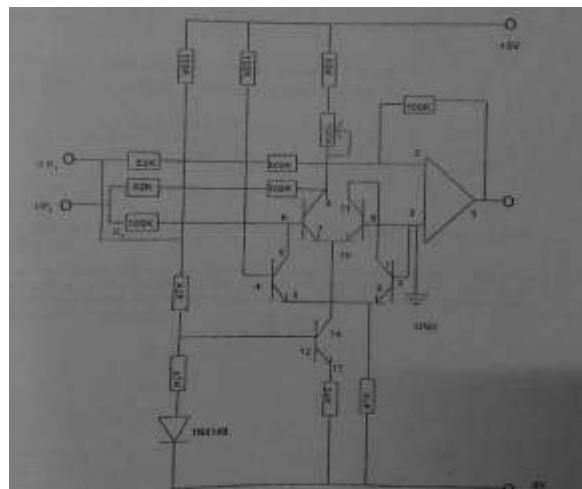
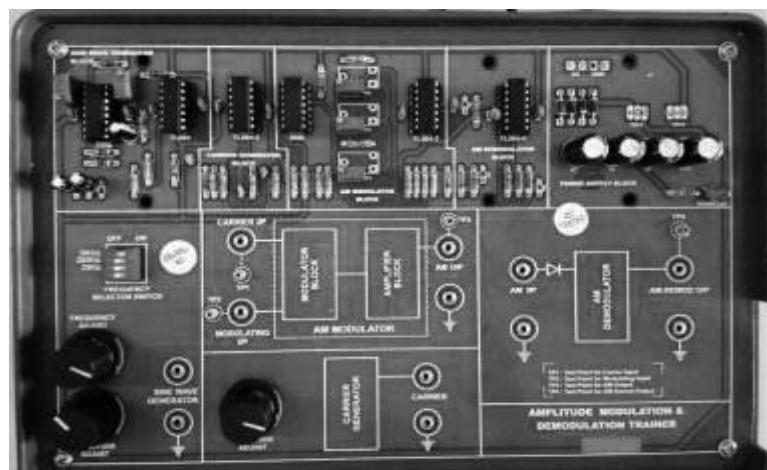
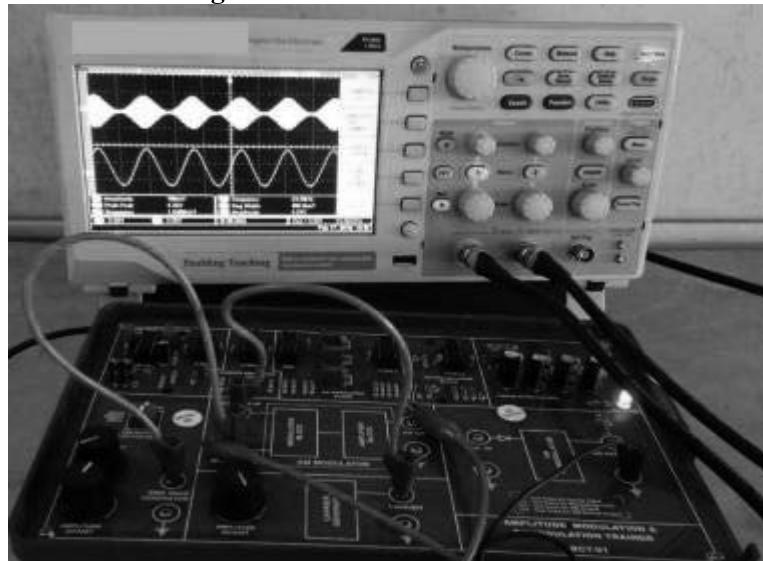
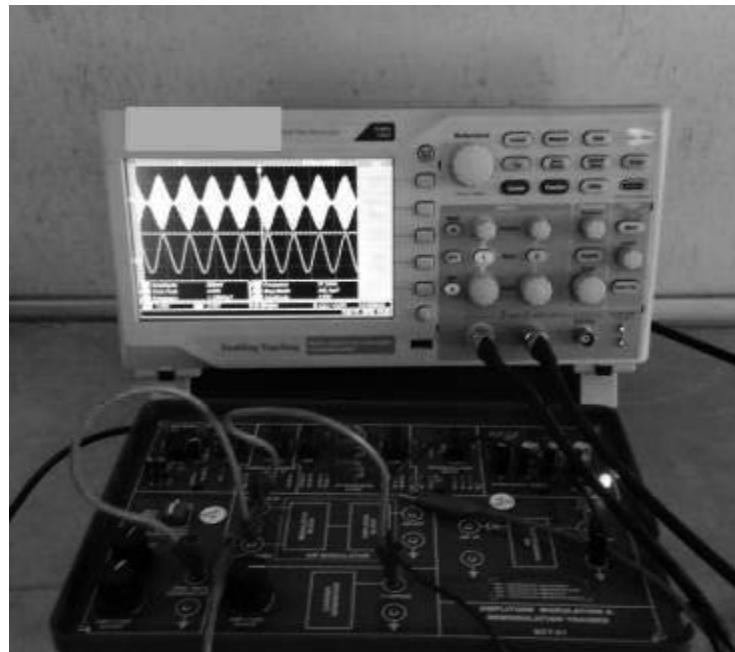

Fig 4.6: Circuit diagram of AM generation using ICTL084 and IC 3086
Fig 4.7: Trainer kit of AM Wave
Fig 4.8: AM Wave $V_m < V_c$ i.e $m < 1$
Fig 4.10 AM Wave $V_m = V_c$ i.e $m=1$
In the sample experimental trainer kit as shown in Fig 4.7, AM signal is generated using IC TL084 and IC 3086. Both modulating and carrier waveforms are generated by quadrature oscillator circuits. The circuit uses operational amplifier, one as a non-inverting integrator & the other as an inverting integrator. The two amplifiers are connected in cascade. ICTL084 is a quad-op-amp IC, requires both positive (pin 4) and negative supply (pin 11) voltage. IC 3086 is the transistor array used as an input amplifier.
- a) Sample circuit diagram (Fig4.6)/ Trainer kit(Fig4.7)/ Experimental setup(Fig.4.8 to Fig.4.10)
1. For $m < 1$ as shown in figure 4.8, Switch on the trainer kit and check the output of the carrier generator on oscilloscope